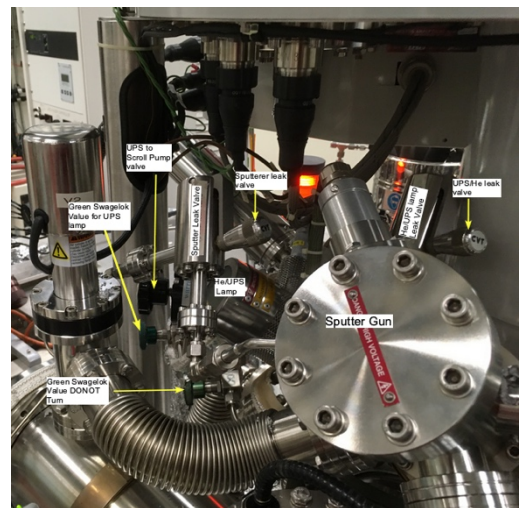

Figure 2 View of UPS/He lamp and Sputterer. Note two green swagelok valves, leak valves, and valve to scroll pump.
- 5) Open the green Swagelok valve, Figure 2. Turn it 1 full counterclockwise rotation. Be sure to turn the valve that is connected to the leak valve for the UPS lamp. *There is the other green valve to the right of the correct valve marked with red tape that should **NOT** be turned, Figure 2.*
- 6) Slowly and carefully, open the leak valve on the UPS lamp, Figure 2. This allows He(g) to flow into the SAC via the UPS lamp. The leak valve needs to be turned approximately 1.5 rotations **ccw**. After 1 full turn, **SLOWLY** turn the knob while monitoring the pressure until the STC reads  $\sim 2 \times 10^{-8}$  Torr and the SAC reads  $\sim 1 \times 10^{-8}$  Torr.
- 7) Open the UPS-to-scroll differential pumping valve located to the left of the UPS lamp housing, Figure 2. Hold the valve base while opening to maintain the UPS alignment. Turn the valve fully counterclockwise until it stops. The chamber pressures should lower after the valve is opened.